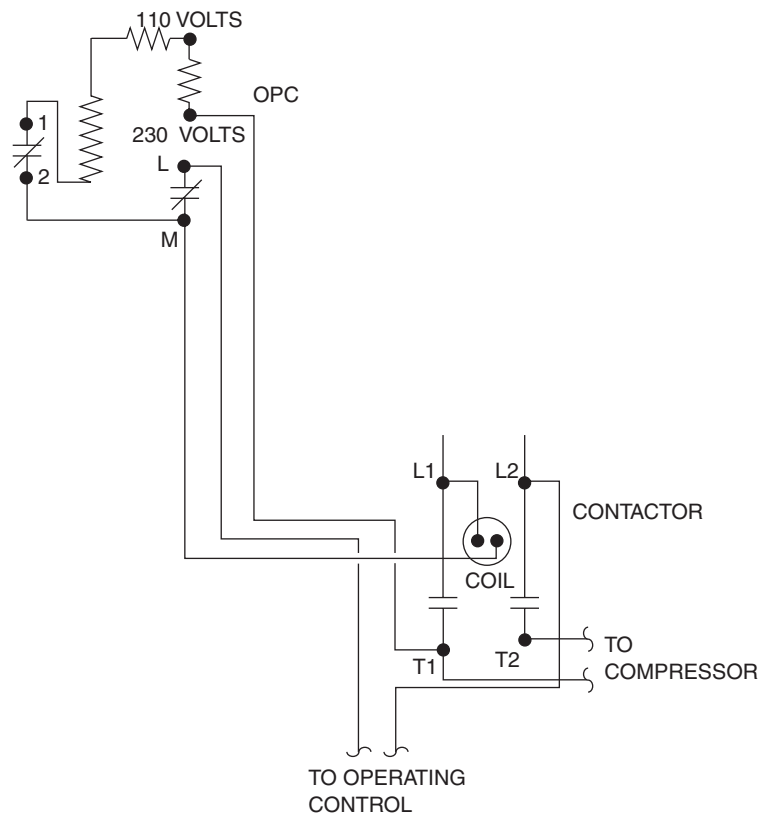

FIGURE 20-22 Oil pressure cutout.
5. Redraw the OPC diagram in Figure 20-22 similar to the format used in Figure 20-21. It will be slightly different. Show all terminal identification. [HINT: The switch between terminals 1-2 in the OPC is the switch that opens when sufficient oil pressure is established.]